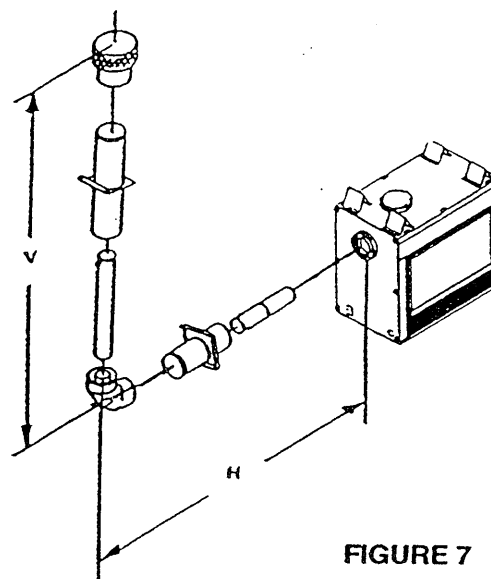

FIGURE 7
Figures 7 and 8 and Tables 4 and 5 show examples of possible installations using one (1) 90-degree elbow. Dimension V is listed as **MINIMUM** vertical dimensions and dimension H is listed as corresponding **MAXIMUM** horizontal dimensions.